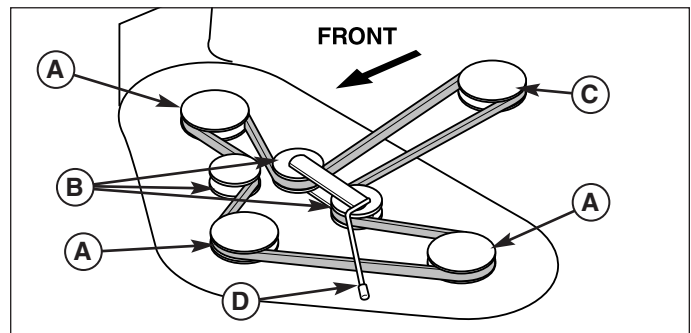
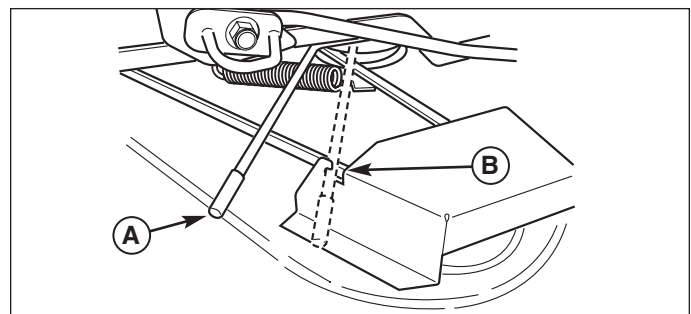

Figure 33. Mower Belt Routing
Figure 34. Release Belt Tension
2. Raise the mower deck to transport position. Pull the lever (A, Figure 34) towards the rear of the machine to release tension on the mower belt. Secure the lever in the guard notch (B).
3. Remove the old drive belt and install the new one as shown in Figure 33. Note that the back of the drive belt must ride against the back-side idler pulleys (B). Use the belt tension lever (A, Figure 34) to release tension on the idler pulley for installation.